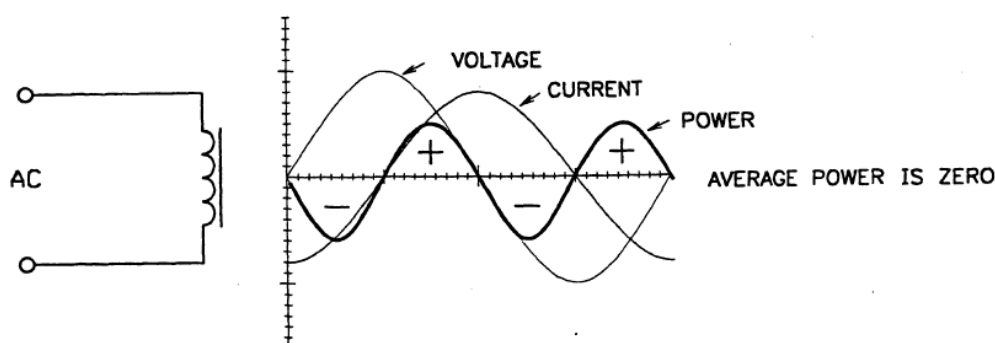

Figure 4 - Instantaneous power over one full cycle.
24. Figure 4 shows the instantaneous values of power ($V \times I$) over one complete cycle. The power above the X axis is regarded as positive power (power taken from the mains), and the power below the X axis is regarded as negative power (power returned to the mains); since the amount of positive power equals the amount of negative power, the average power in a purely inductive circuit is zero.